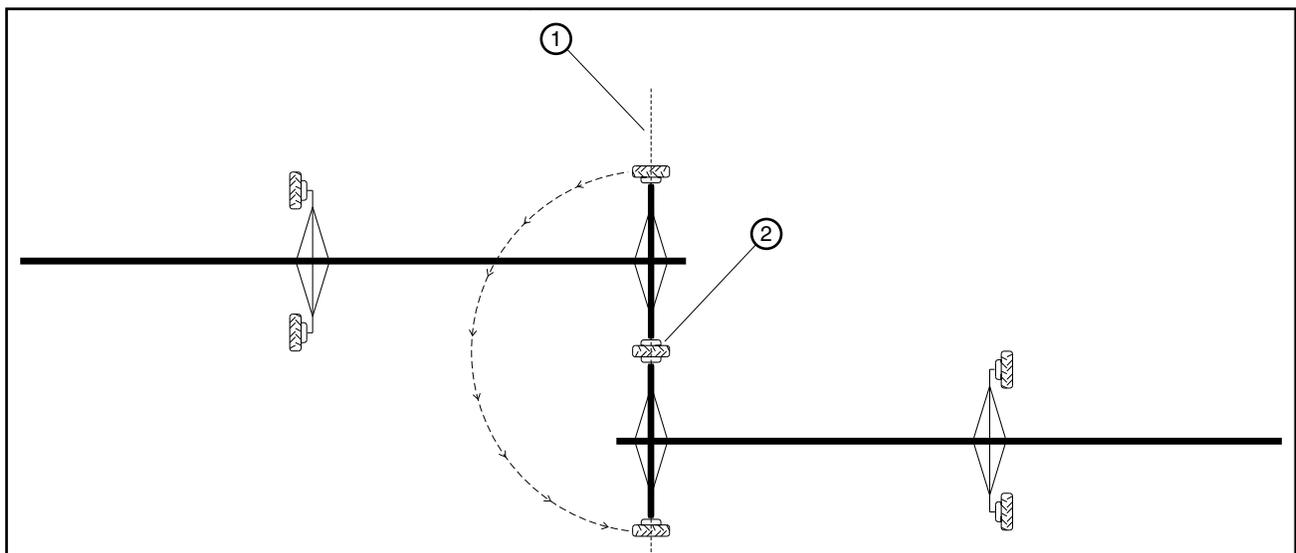

Figure 77-3 Fixed Wheel method.
6. When the machine is started it will pivot around the center of the fixed wheel. See Figure 77-3.